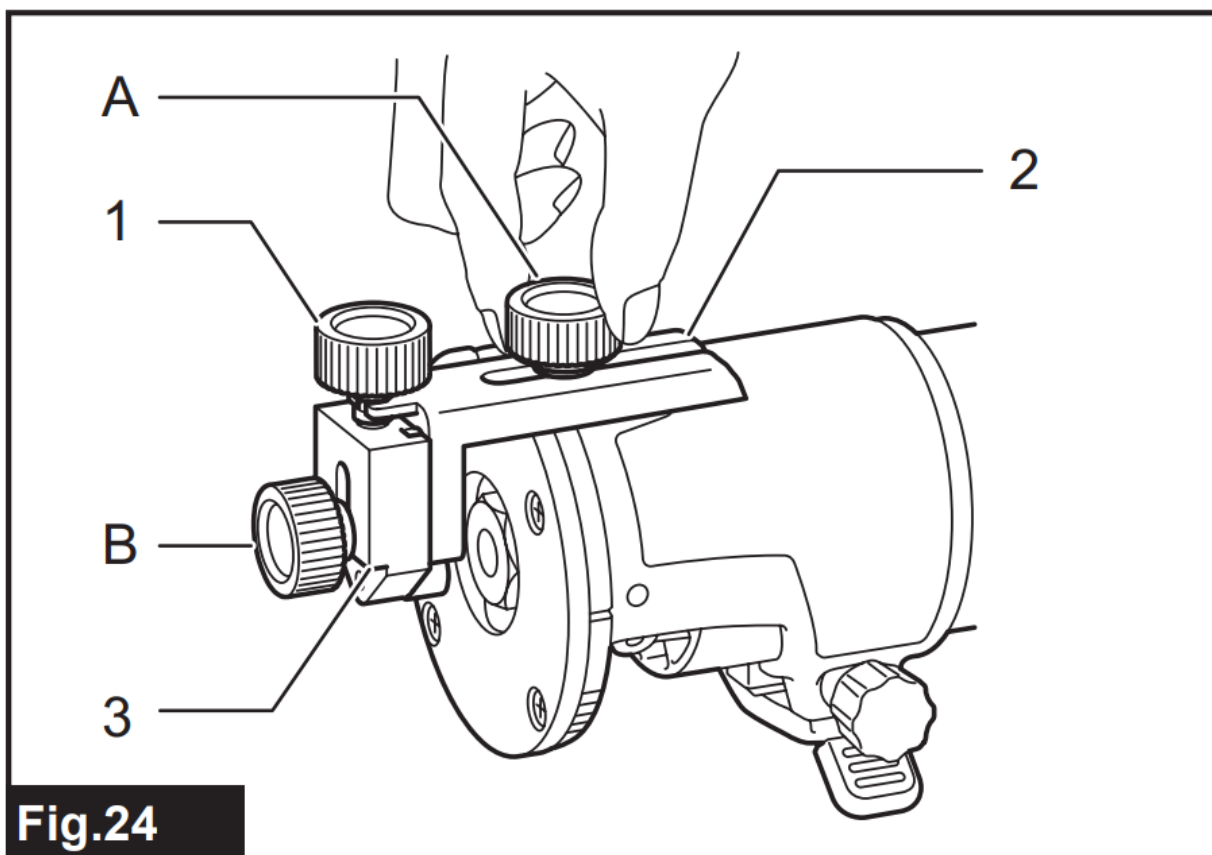

Fig.24
- Install the trimmer guide and guide holder on the base with the clamping screw (A).
- Loosen the clamping screw (B) and adjust the distance between the trimmer bit and the trimmer guide by turning the adjusting screw (1 mm per turn). At the desired distance, tighten the clamping screw (B) to secure the trimmer guide in place.
► **Fig.24:**